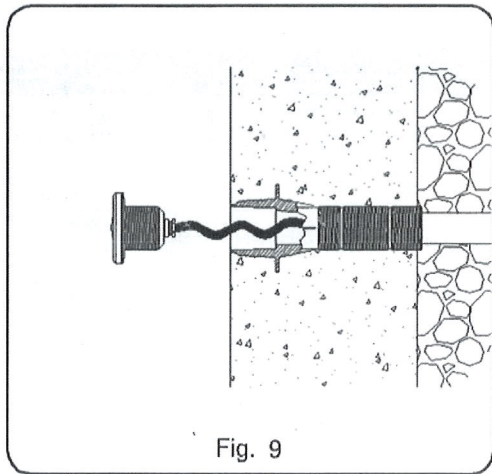

Fig. 9
3. Feed the light cable through the conduit (Fig. 9). Leave sufficient cable to allow the floodlamp to be pulled out as far as the top of the swimming pool.